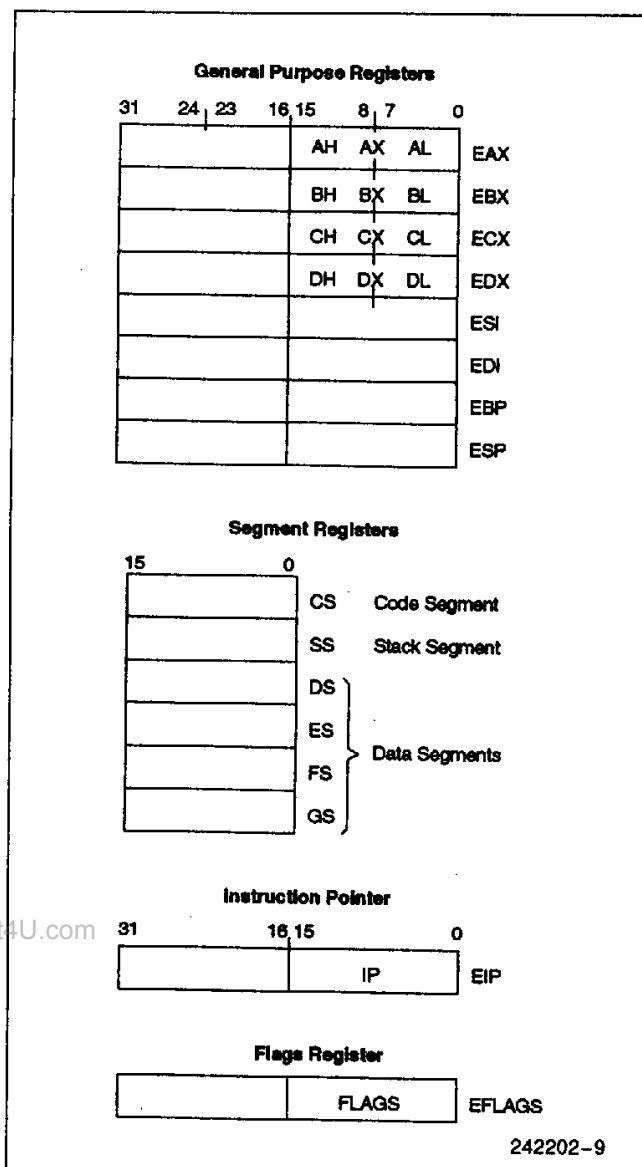

Figure 4-2. Base Architecture Registers
Figure 4-2 shows the Intel486 processor base architecture registers. The contents of these registers are task-specific and are automatically loaded with a new context upon a task switch operation.
The eight 32-bit general purpose registers are shown in Figure 4-2. These registers hold data or address quantities. The general purpose registers can support data operands of 1, 8, 16 and 32 bits, and bit fields of 1 to 32 bits. Address operands of 16 and 32 bits are supported. The 32-bit registers are named EAX, EBX, ECX, EDX, ESI, EDI, EBP and ESP.
The instruction pointer shown in Figure 4-2 is a 32-bit register named EIP. EIP holds the offset of the next instruction to be executed. The offset is always relative to the base of the code segment (CS). The lower 16 bits (bits 0–15) of the EIP contain the 16-bit instruction pointer named IP, which is used for 16-bit addressing.